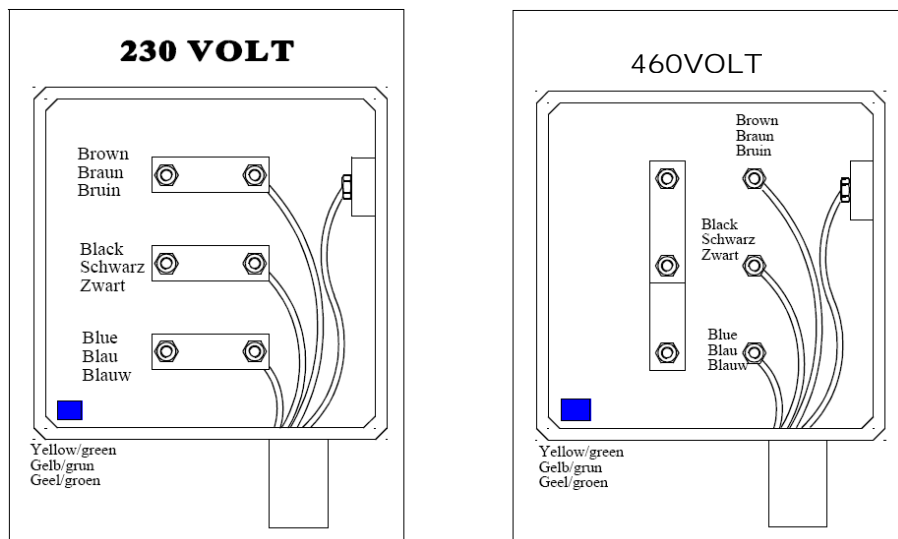

Figure 4.4-1: Wiring connections in the connection compartment of the electrical motor
- Open the connection compartment of the electrical motor and install the strips as shown in Figure 4.4-1.
Connect the supply cable wires according to the correct diagram in Figure 4.4-1. Install a plug that matches your electrical outlet on the end of the cable. After connection, check the direction of rotation of the grinding belt. The top surface must move toward the cross support.